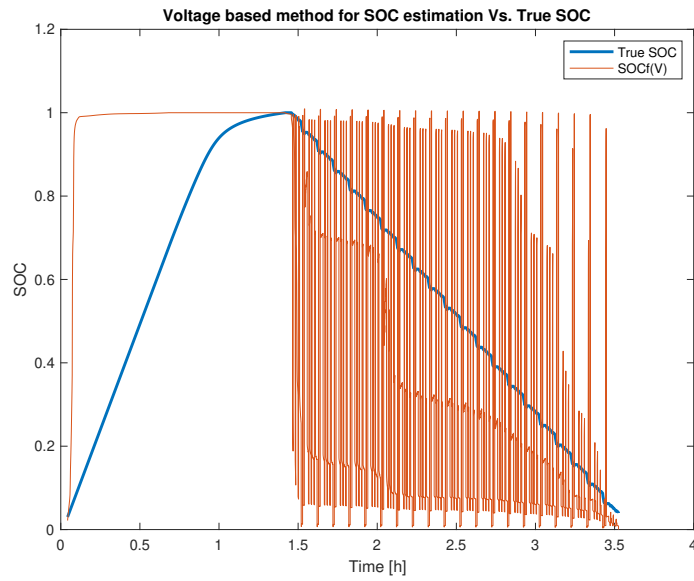

Figure 4.3: SOC vs time for the terminal voltage.
- b) The result of the SOC estimation using the terminal voltage directly for SOC estimate is shown in Figure 4.3. Since the OCV curve is very flat and the terminal voltage is not very sensitive to SOC changes, the SOC estimation using the terminal voltage is not very accurate. It can partially be seen in the beginning of the cycle, where the SOC reaches close to 100% almost immediately. The RMSE values for each case can be found in Table 4.1.